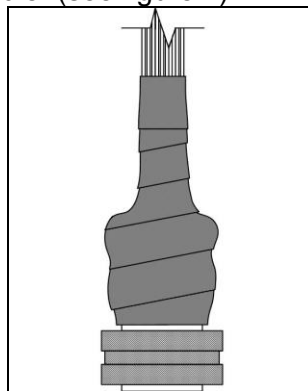

Figure 2
- 3.3.3 Continue to apply the StretchSeal™ Tape with a 50% overlap until the connector rear accessory is covered and at least one complete wrap of StretchSeal™ Tape has been installed on the harness bundle. (see figure 2)